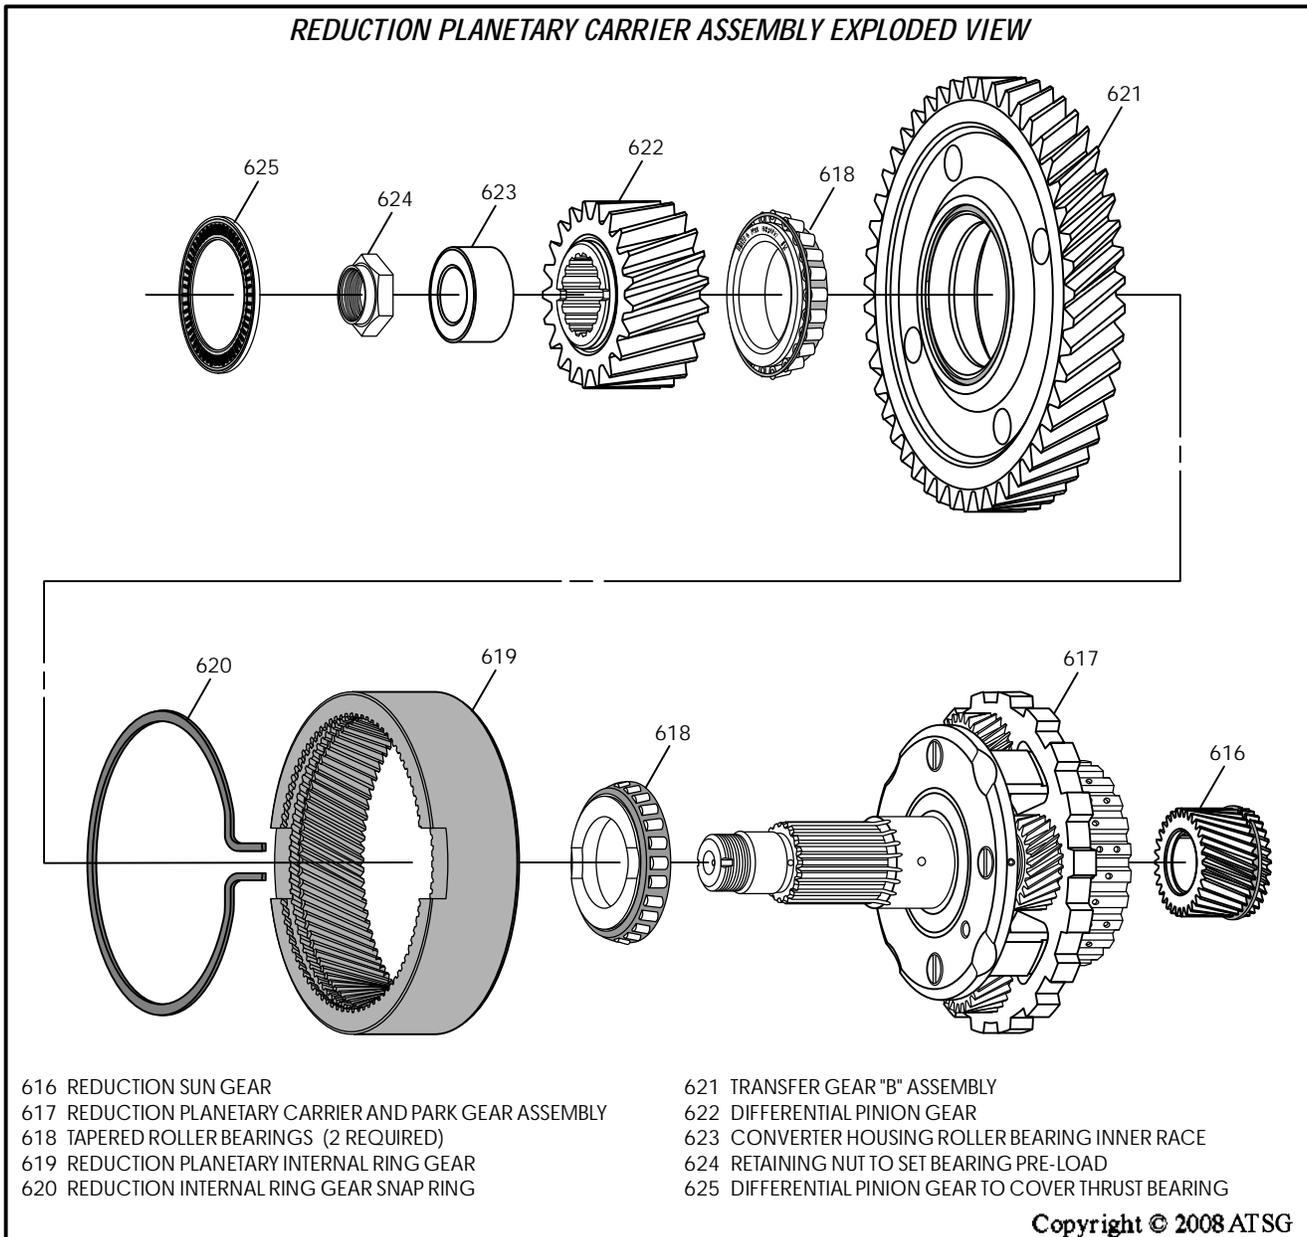

Figure 102
4. Disassemble the remaining parts of reduction carrier using Figure 102 as a guide.